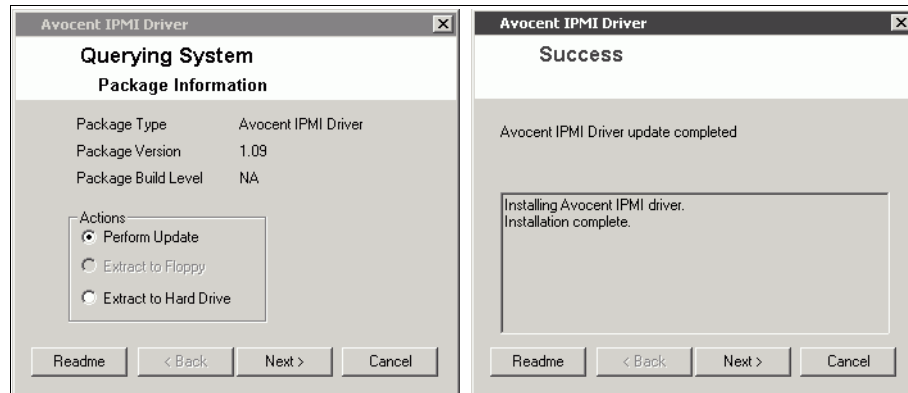

Figure 6-6 OSA IPMI driver in a Windows installation
2. When prompted select **Perform Update** and click the **Next** button (Figure 6-6 on page 310).